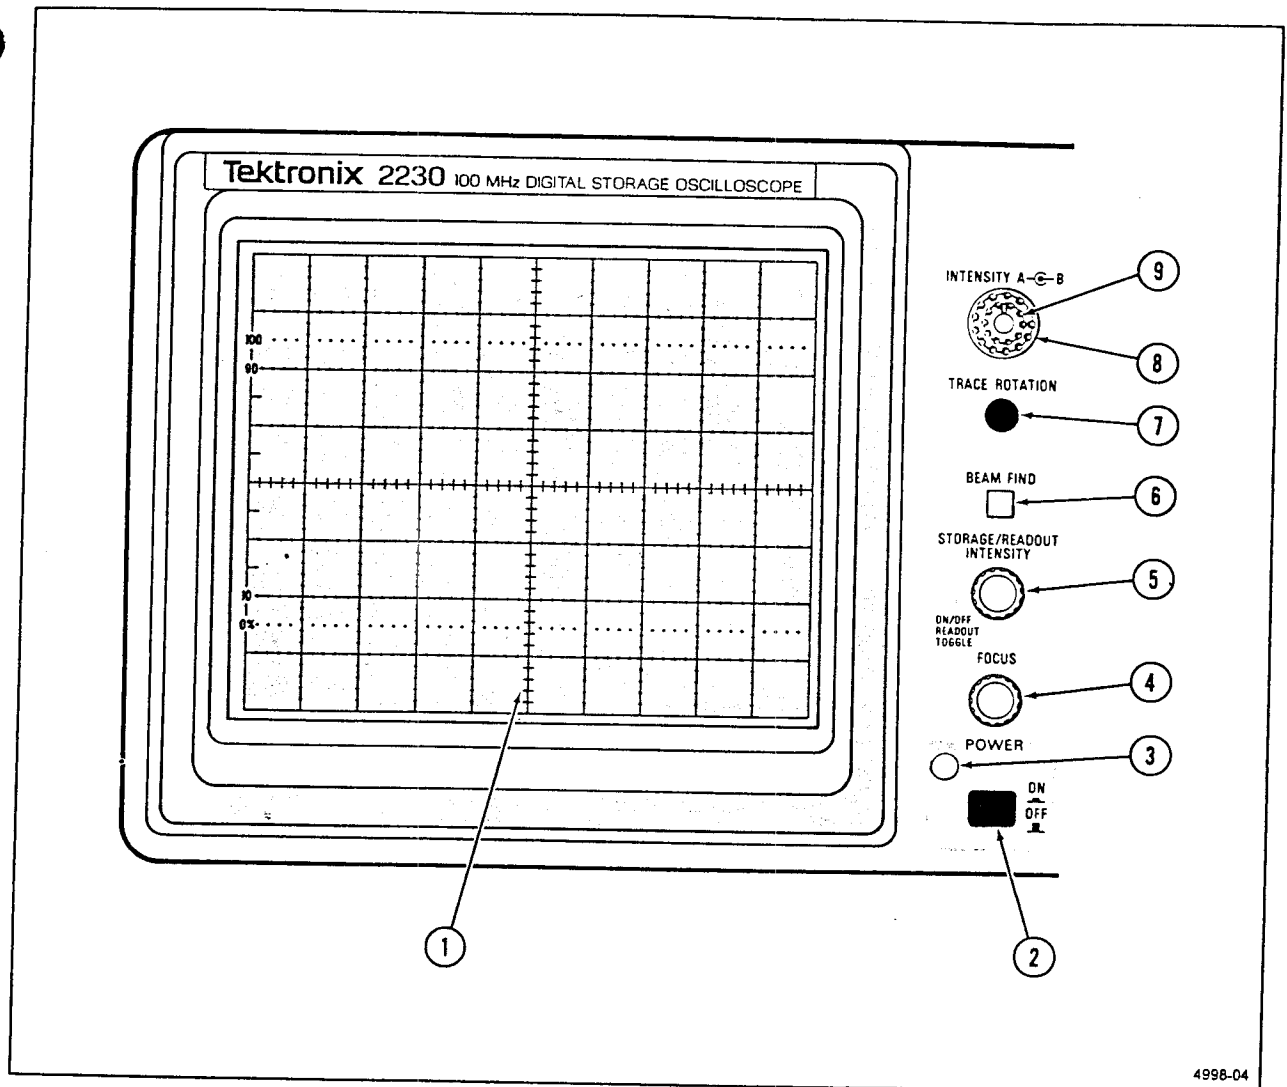

Figure 2-4. Power and display controls and power-on indicator.
Refer to Figure 2-4 for location of items 1 through 9.
- ① **Internal Graticule**—Eliminates parallax viewing error between the trace and the graticule lines. Rise-time amplitude and measurement points are indicated at the left edge of the graticule.
- ② **POWER Switch**—Turns instrument power on or off. Press in for ON; press again for OFF.
- ③ **Power On Indicator**—Lights up while instrument is operating.
- ④ **FOCUS Control**—Adjusts for optimum display definition. Once set, proper focusing is maintained over a wide range of display intensity.
- ⑤ **STORAGE/READOUT INTENSITY Control**—Adjusts the brightness of the STORE mode displayed waveforms and the readout intensity in both STORE and NON STORE mode. The fully counterclockwise position of the control toggles the STORE/NON STORE readout on and off.
- ⑥ **BEAM FIND Switch**—Compresses the vertical and horizontal deflection to within the graticule area and intensifies the display to aid in locating traces that are overscanned or deflected outside of the crt viewing area.
- ⑦ **TRACE ROTATION Control**—Permits alignment of the trace with the horizontal graticule line. This control is a screwdriver adjustment that, once set, should require little attention during normal operation.
- ⑧ **A INTENSITY Control**—Adjusts the brightness of all NON STORE displayed waveforms. The control has no effect on the STORE mode displays or the crt readouts.
- ⑨ **B INTENSITY Control**—Adjusts the brightness of the NON STORE B Delayed Sweep and the Intensified zone on the A Sweep. The control has no effect on STORE mode displays or crt readouts.